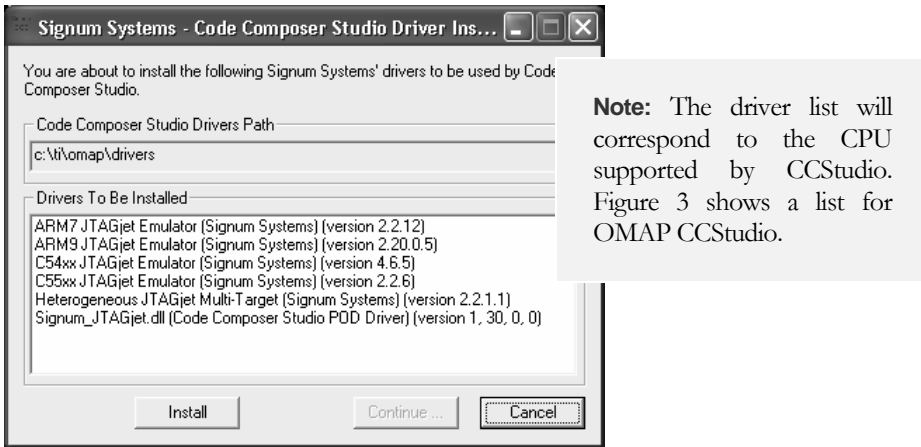

FIGURE 3 Confirming the installation of the drivers.
3. The CCStudio drivers and all supporting files will be copied to the “drivers” folder of the selected CCStudio installation (Figure 3). Click Install and then Continue to finish the installation process.